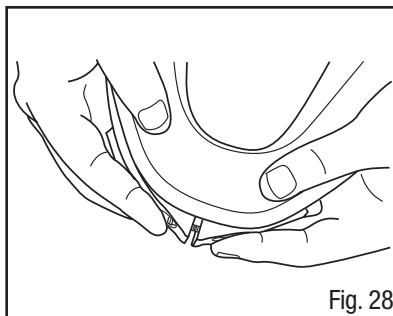

Fig. 28
2. Position new frame, aligning marks top and bottom. Install and securely tighten screw. Make certain alignment marks are properly aligned top and bottom with all components (Fig. 28).
8. Place new lens and face seal together aligning marks at top and bottom. Position frame, again aligning marks top and bottom. Install and securely tighten screw. Make certain alignment marks are properly aligned top and bottom with all components (Fig. 28).